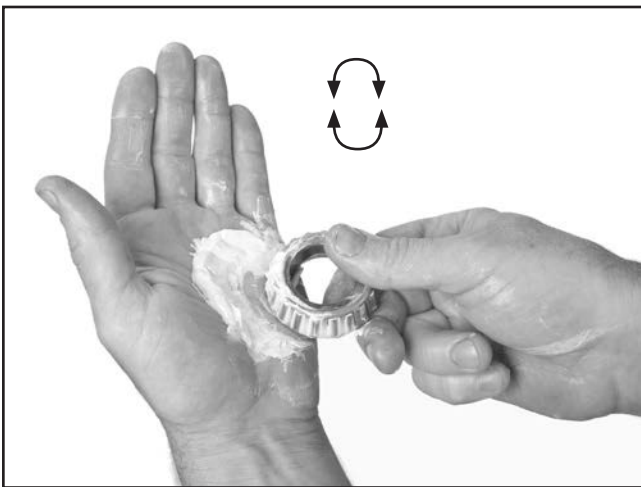

Figure 63. Packing outboard roller bearing with grease.
14. Place a thick layer of grease on the bottom of your palm, and in a sweeping motion, use the large side of the bearing cage to scrape the grease off your palm and into the spaces between the rollers. Continue doing this while rotating the bearing 360° until the grease emerges from the other side of the bearing cage, as shown in **Figures 63–64**.